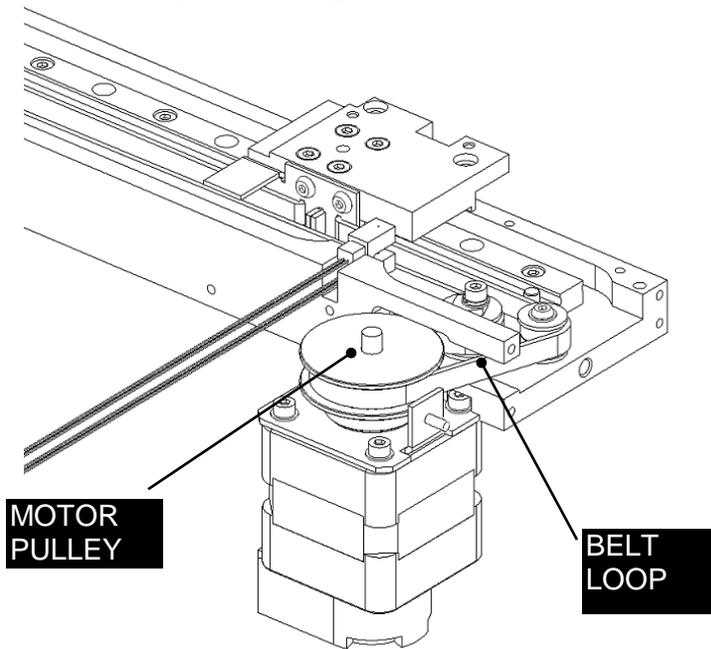

Figure 8-29: Removing the Belt Loop
1. Unhook the Pulley from the belt loop and remove the Motor/Pulley assembly from the Y arm by unscrewing the 4 M3x6 Flat Head Screws (Figure 8-29, 8-30).